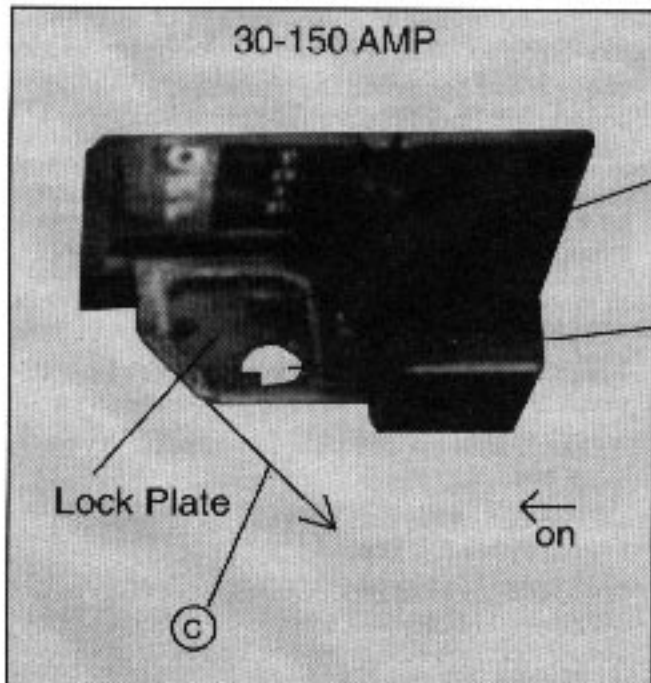

Fig. 36
C. Padlocking (See Figures 36, 37 & 38)